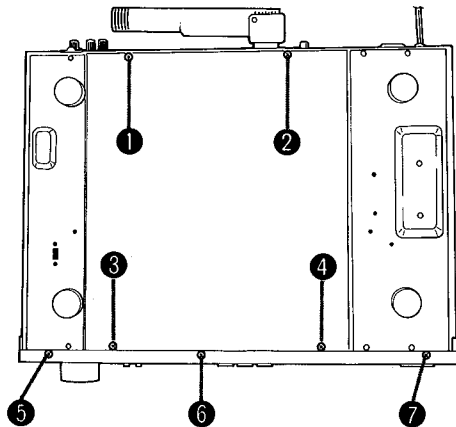
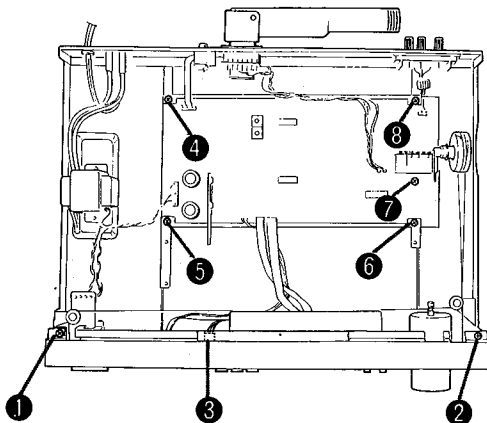
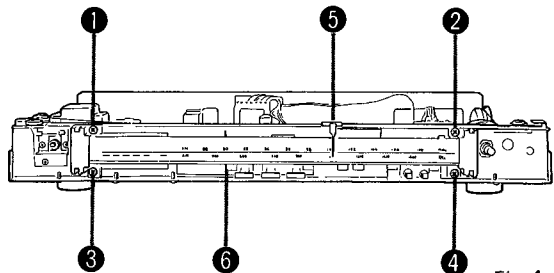

Fig. 2
Fig. 3
Fig. 4
Remove screws ① to ④ in Fig. 2 and then remove the bottom cover.
2. Remove screws ⑤ to ⑦ in Fig. 2 and ① and ② in Fig. 3. Remove the front panel by pulling it toward you gently.
1. Remove the dial pointer ⑤ in Fig. 4.
2. Pull out connector ③ in Fig. 3 from the lamp P.C. board.
3. Fold the lower part of the metal fixture ⑥ along the horizontal line.
4. Remove screws ① to ④ in Fig. 4.
2. Secure the dial string to the pulley by winding adhesive tape or vinyl tape. Remove screws ④ to ⑧ in Fig. 3 and then remove the main P.C. board.